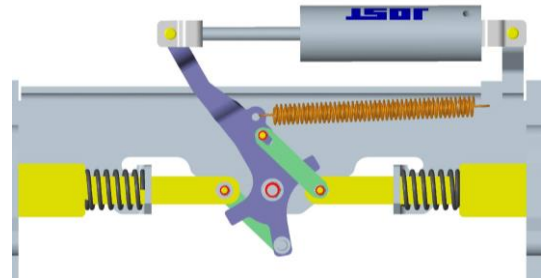

FIGURE 1
3. Disengage the locking plungers as shown in figure 1.